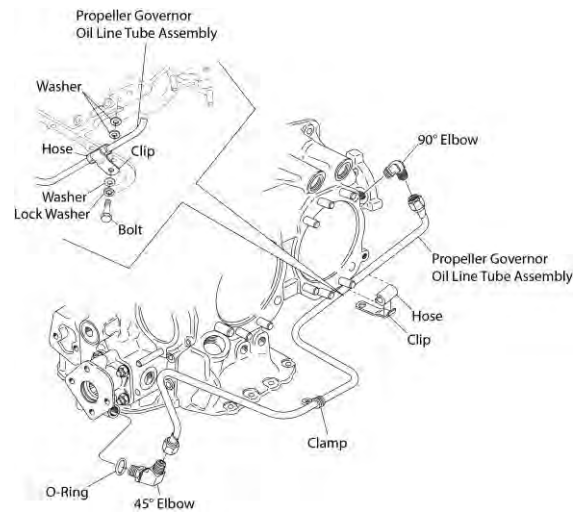

Figure 18
- A. Remove the bolt, lock washer, and washer from the clip on the propeller governor oil line (Figure 18). Discard the lock washer.
- D. Install the hose and clip on the propeller governor oil line assembly (Figure 18).
- F. Install a new clamp (Figure 18) on the propeller governor oil line assembly to the oil sump with the bolt, washer, new lock washer and nut. Torque the bolt to 96 in.-lb. (11 Nm).